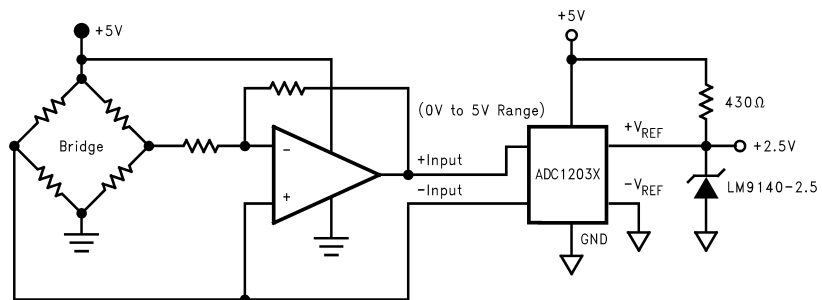

**Figure 36. AC Coupled ADC Driver**
The LMV2011 is a great choice for an amplifier stage immediately before the input of an ADC (Analog-to-Digital Converter), whether AC or DC coupled. See Figure 36 and Figure 37. This is because of the following important characteristics:
- E)** Rail-to-Rail output swing maximizes the ADC dynamic range in 5-Volt single-supply converter applications. Below are some typical block diagrams showing the LMV2011 used as an ADC amplifier (Figure 36 and Figure 37).